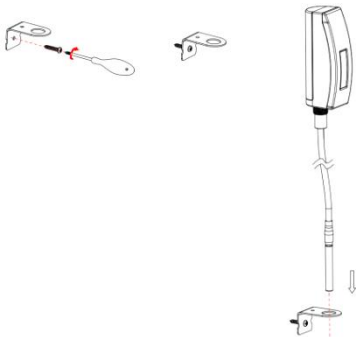

Figure 3-1: Sensor mounting
- Use a screw (Stainless steel round head Screw $\phi 3.0 \times 15$) to fix the bracket on the wall, and then insert the probe through the hole of the bracket, as shown on figure 3-1: